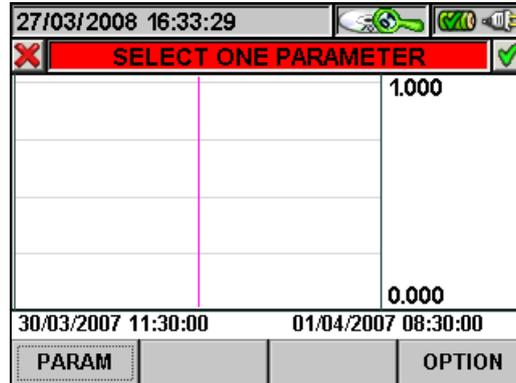

Fig. 90: Selecting a parameter
- The **ESC** key (or smart icon) to exit the function and go back to the “Selecting a parameter” page (Fig. 90).
- The **ESC** key (or smart icon ) to exit the function and go back to the “Selecting a parameter” page (Fig. 90).
3. Press the **ESC** key (or the smart icon ) to exit the function and go back to the “Selecting a parameter” page (Fig. 90).